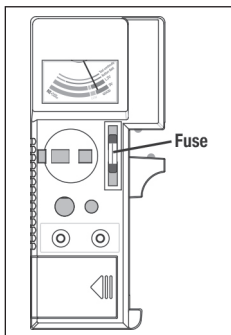

Fig. 3
1. Place the fuse against the fuse test contacts (6) (Fig. 3).
2. To read the state of the fuse, observe the position of the gauge (7) needle against the scale band marked "Test continuity".